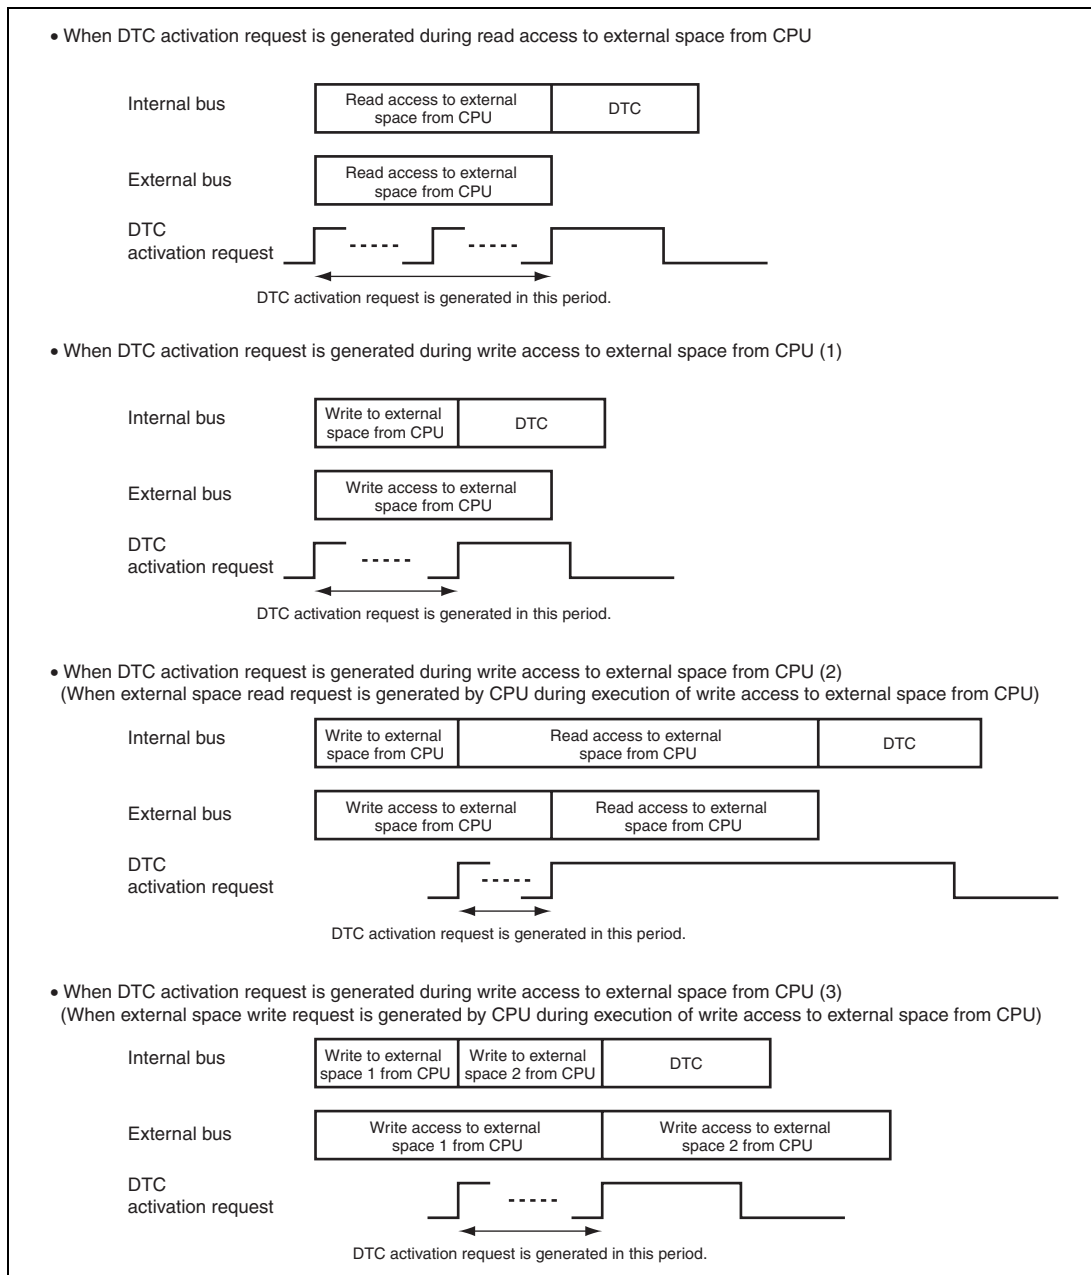

Figure 9.10 Bus Arbitration When DTC Activation Request Occur during External Space Access from CPU
In addition, because the write buffer operates as described in section 9.5.7 (2), Access in View of LSI Internal Bus Master, arbitration between the CPU and DTC is different depending on whether the external space access by the CPU is a write or read access. Figure 9.10 shows the bus arbitration when a DTC activation request is generated while an external space is accessed by the CPU.